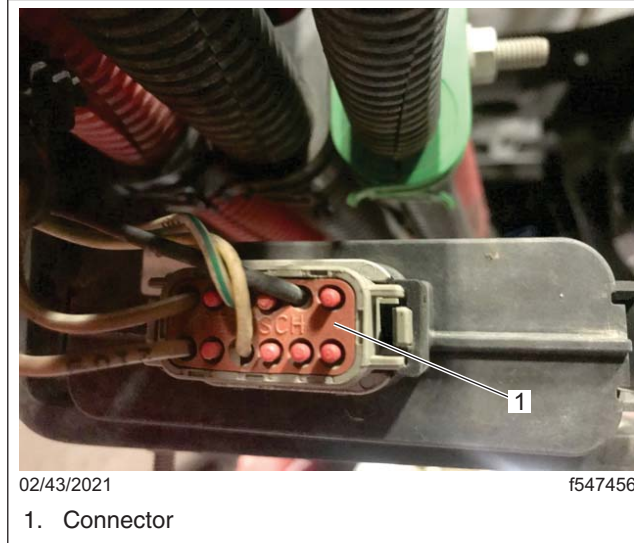

Fig. 2, TPMS Module Connector
Description of Revisions: *This bulletin replaces the bulletin dated 02/08/2021. The location for the date stamp has changed. A note has been added to Fig. 2.*
IMPORTANT: Fig. 2 is intended for visual orientation purposes only. The wire routing should NOT be such that the wire connections are stressed, as is seen here. Proper procedure for wiring with this module is outlined below in Step 7.
3. Disconnect the wiring harness connector from the TPMS module. See Fig. 2.